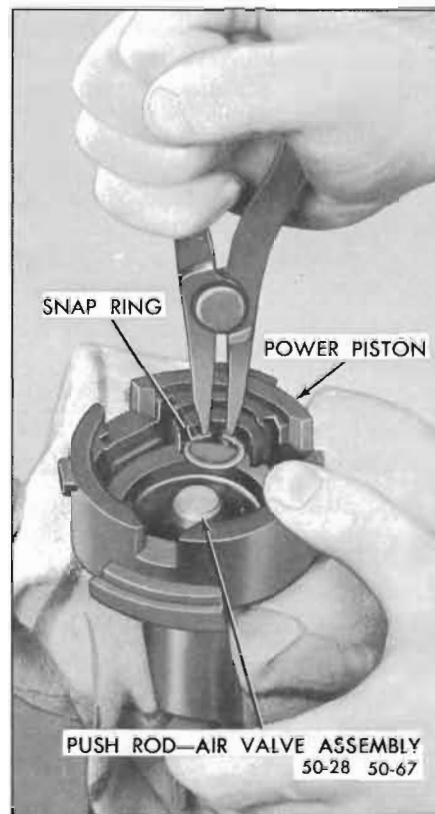

Figure 50-67—Removing Power Piston Snap Ring
9. Use #22 Truarc Pliers or J-4880 to remove the snap ring on the floating control valve. See Figure 50-67.